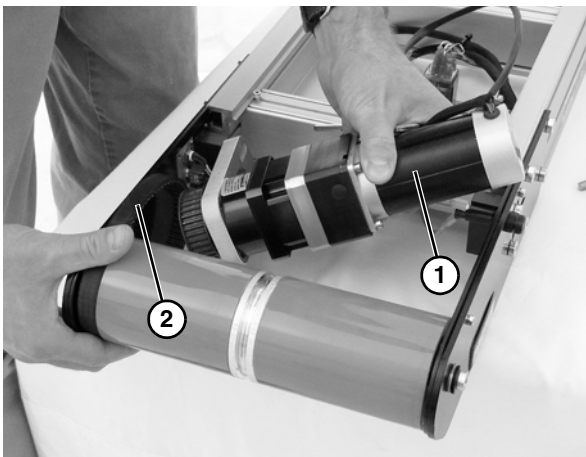

Figure 56
5. Remove two hex head screws (**Figure 56, item 1**).
6. Slide drive motor and plate (**Figure 56, item 1**) to loosen tension on timing belt (**Figure 56, item 2**).